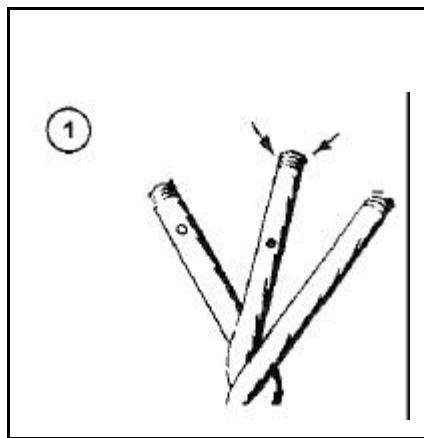

Figure 12-29. Selecting the Middle Strand
- **Step 1.** Figure 12-29 shows how to make the first two tucks. Separate the strands in the end and hold them up as shown. Place the three unlayed strands against the standing part where they will be tucked, forming an eye the size you need. Always tuck the middle strand facing you first. Put a reverse twist on the standing part so that you can raise the strand under which you will make the first tuck. Pick up the strand that you will tuck, and tuck it under the strand raised. Always tuck from right to left or with the lay of the line.